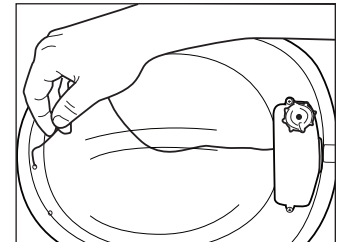

Figure 23
4. Run the wire from the battery unit to the front of the helmet (Figure 23).